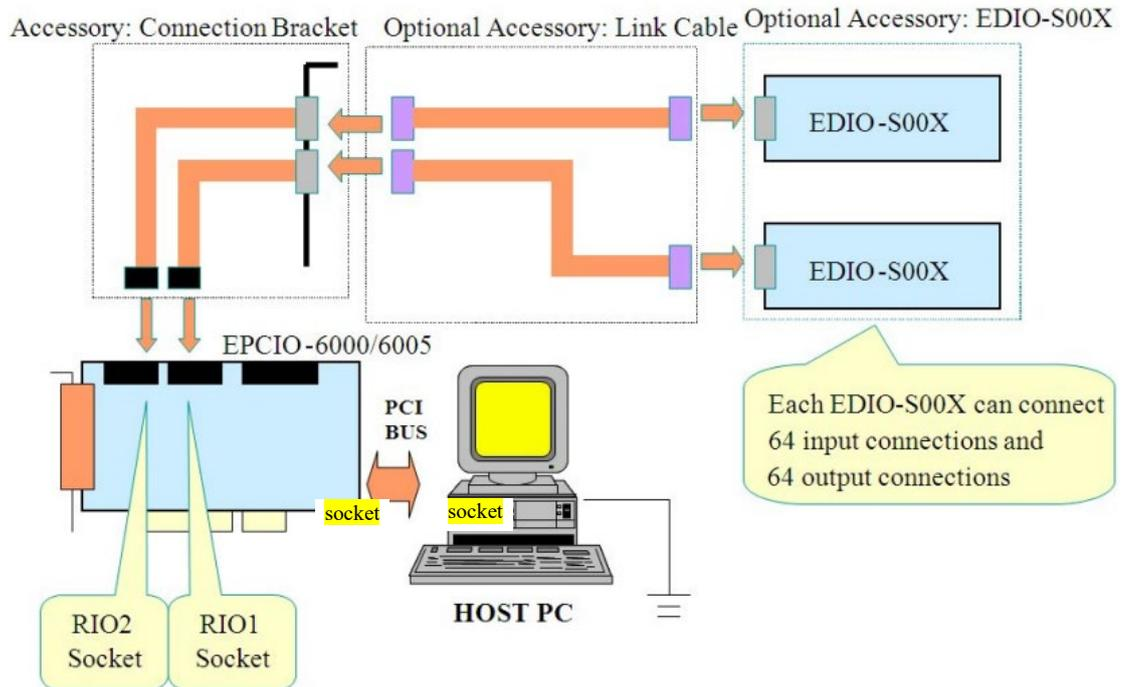

Figure 3-6.1
3.6.1 Hardware wiring (refer to Section 3.1 Basic Installation and the following description). Taking EPCIO-6000/6005 for example, Figure 3-6.1 shows how EPCIO-6000/6005 is connected with the RIO sockets of two EDIO-S00X.